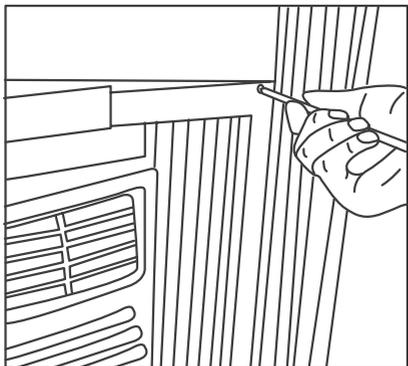
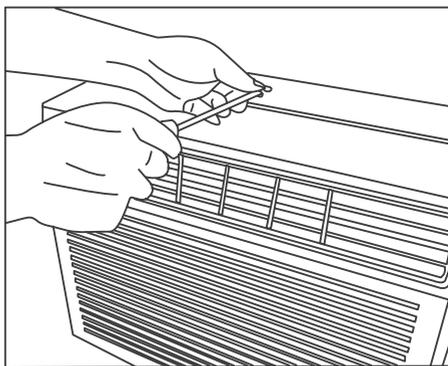

Fig.9
Fig.10
5. Drive 1/2" (12.7mm) locking screws through frame holes into window sash (Fig.9 Fig10)